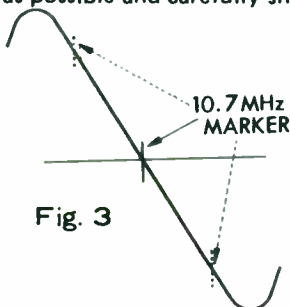

Fig. 3
- If the Ceramic Filters except RED are used, 10.7MHz marker will not appear at the center of "S" curve. (See Fig. 3)